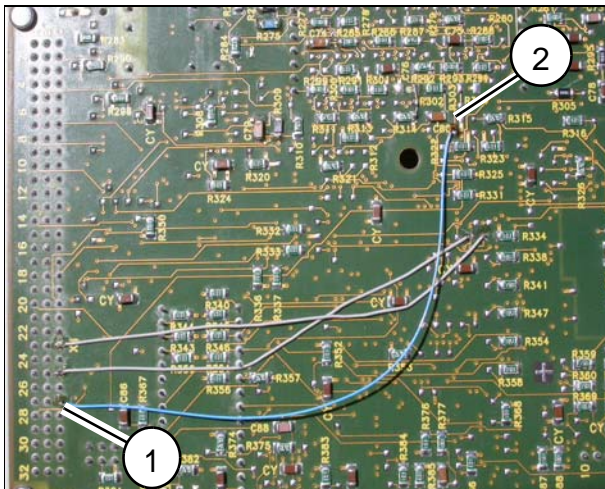
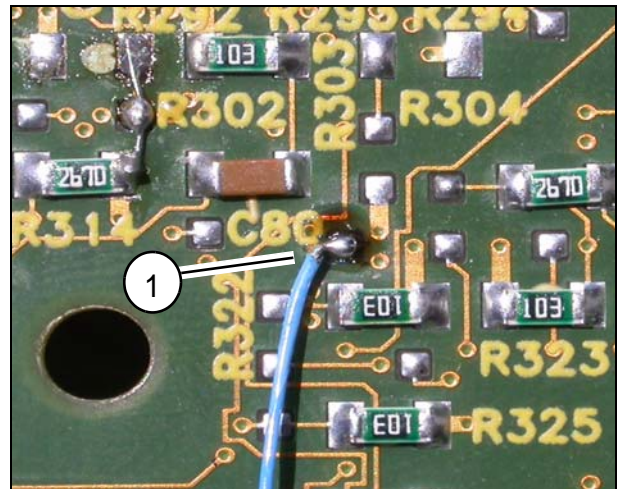

Fig. 5
Fig. 6
- On board D6, solder a 0.25 mm lead from X2 c27 (1/Fig. 5) to (2/Fig. 5). For a detailed view of the soldering point, see (1/Fig. 6).